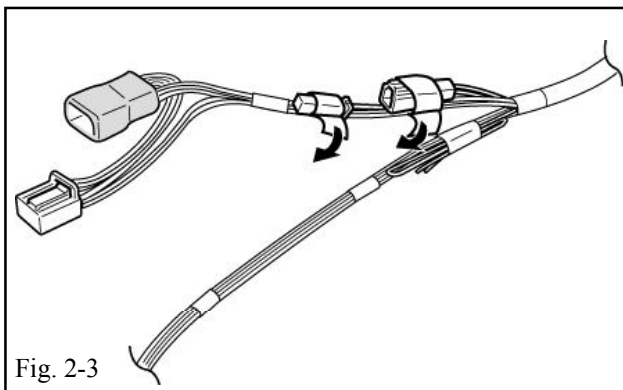

Fig. 2-3
- (c) Locate and un-tape the 2 1P Gray Connectors near the Gray 12P Connectors on the V4 Harness. (Fig. 2-3)
- (1) Do not use the 1P Connectors that are labeled RES DIAGNOSTIC.